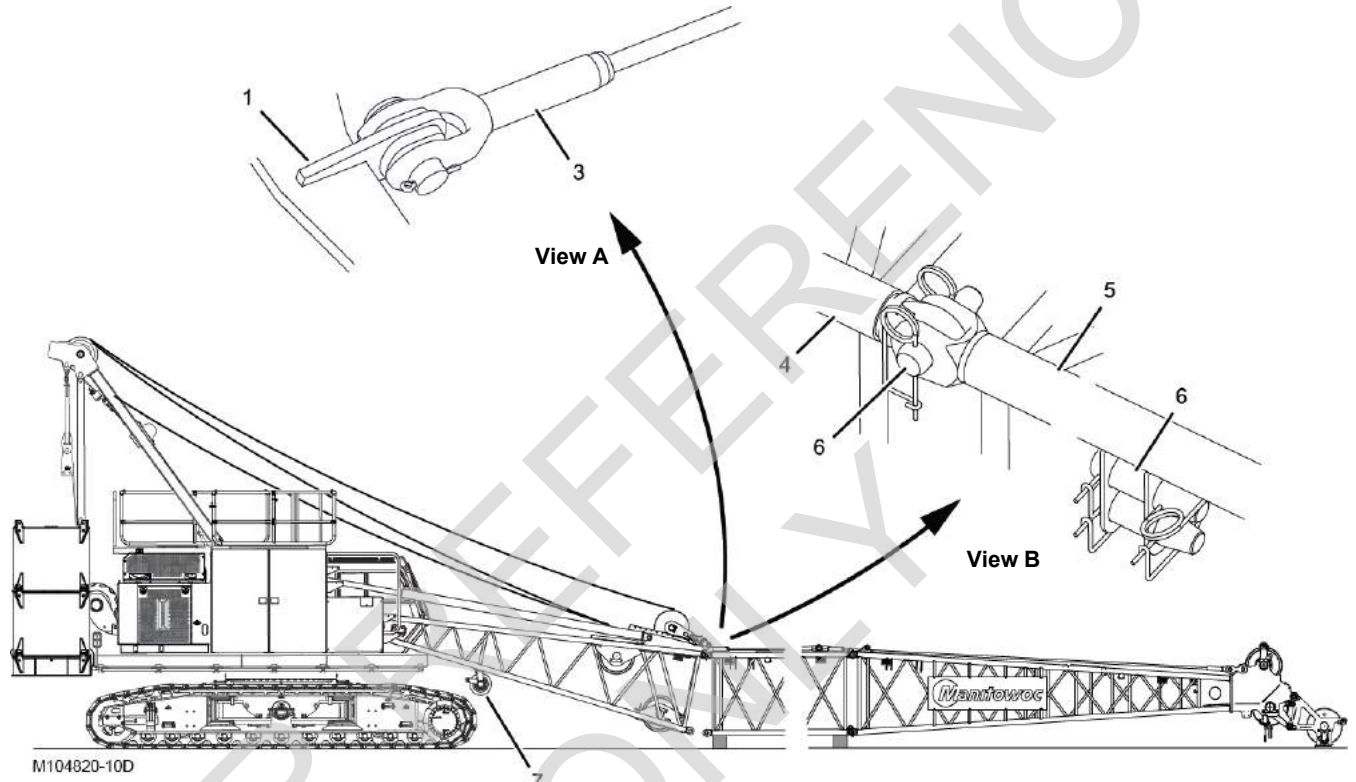

Figure 4-45
Do not disconnect the insert pedants (3, View A, Figure 4-45) from the equalizer (2) until the equalizer is pinned to the boom butt. Otherwise, the equalizer can be pulled rearward by the boom hoist wire rope.
2. Unpin the insert pendants (3, View A, Figure 4-45) from the equalizer (2).
See Figure 4-45.